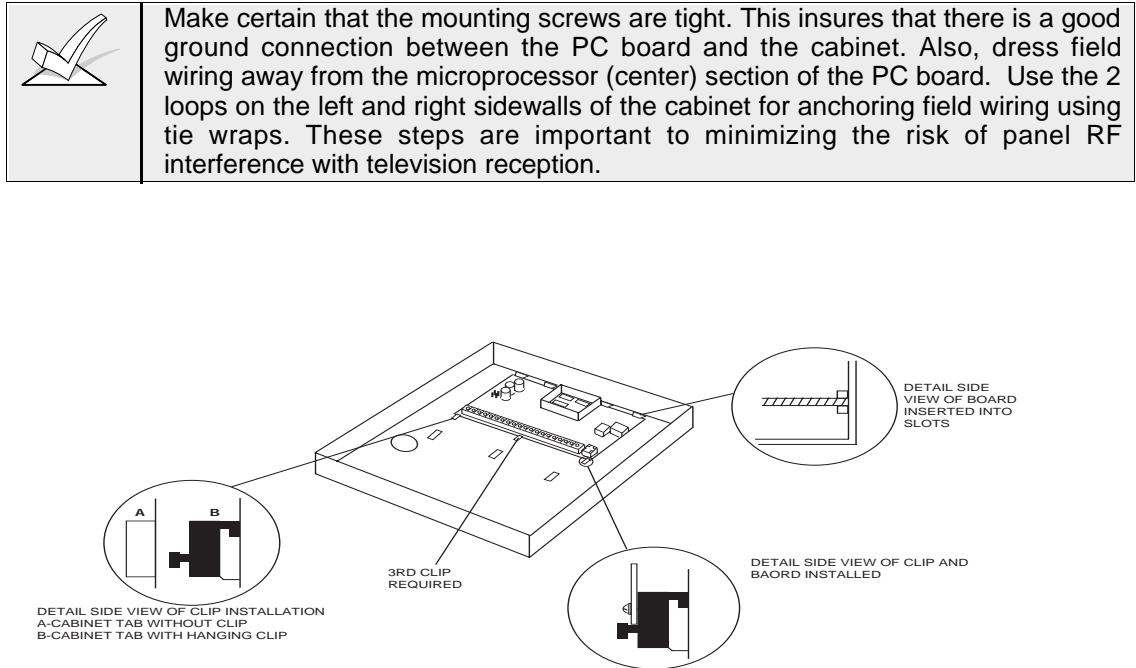

Figure 3. Mounting The PC Board
- Swing the base of the board into the mounting clips and secure the board to the cabinet with the accompanying screws (as illustrated in *Figure 3*).